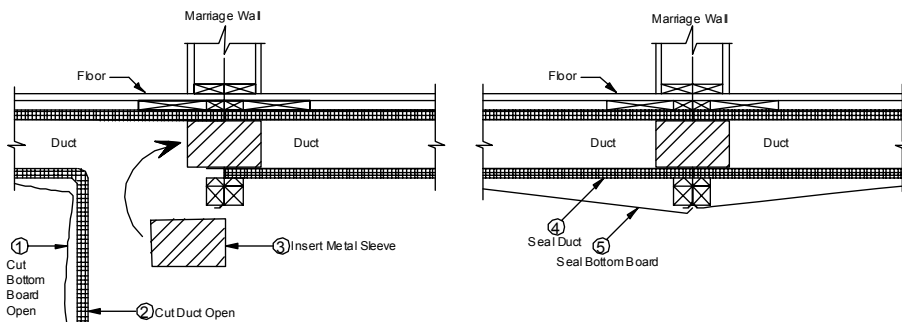

Figure 61. In-floor duct with crossover using metal sleeve
Join duct board ducts with a metal sleeve as follows (**Figure 61**):
2. **Open duct.** Create an opening in the duct by cutting the duct board as shown in **Figure 61**.